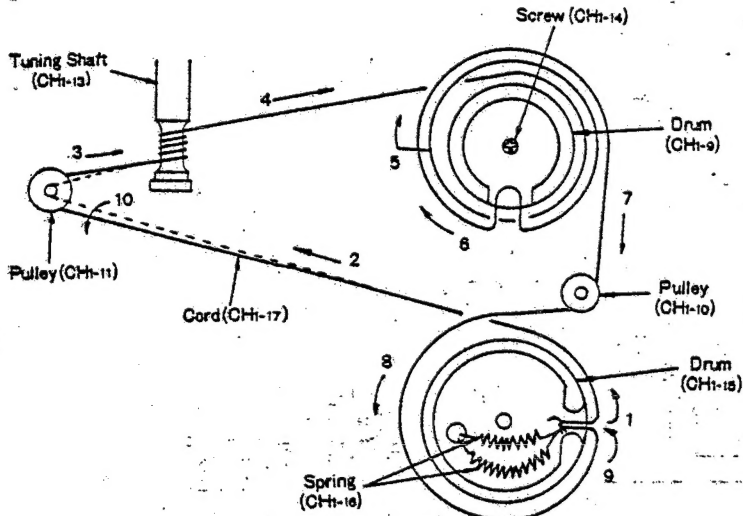

Fig. 12
3. Loosen dial drum screw, as shown in fig. 12.
4. Set each dial drum at the position, as shown in fig. 12.
5. Arrows (1~10) indicate correct order and direction of cord installation, as shown in fig. 12.
9. Tighten the drum screw, as shown in fig. 12.